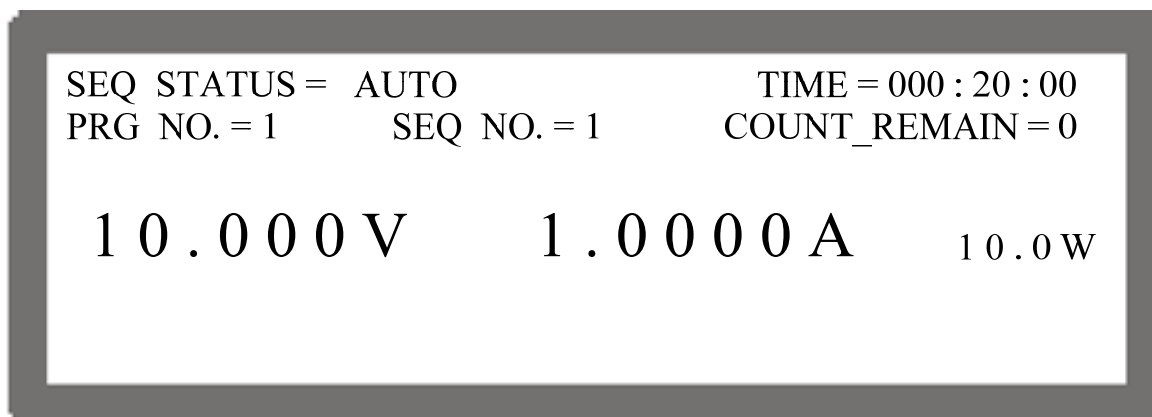

Figure 4-16
2. Press **OUTPUT** again to confirm the execution and go to MAIN PAGE as Figure 4-16 shows. To quit the execution, press **EXIT** will return to the standby MAIN PAGE.